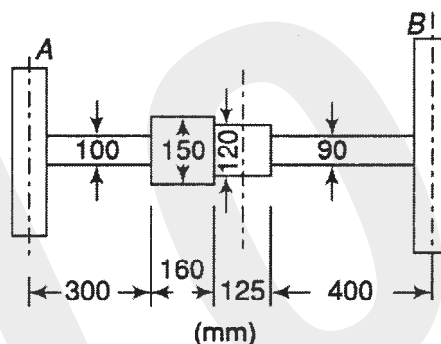

Fig.4
25. The shaft shown in Fig. 4. carries two masses. The mass A is 300 kg. with a radius of gyration of 0.75 m. and the mass B is 500 kg. with a radius of gyration of 0.9 m. Determine the natural frequency of torsional oscillations. It is desired to have the node at the midsection of the shaft of 120 mm. diameter by changing the diameter of the section having 90 mm. What will be the new diameter ? Take, $G = 84 \text{ GPa}$.